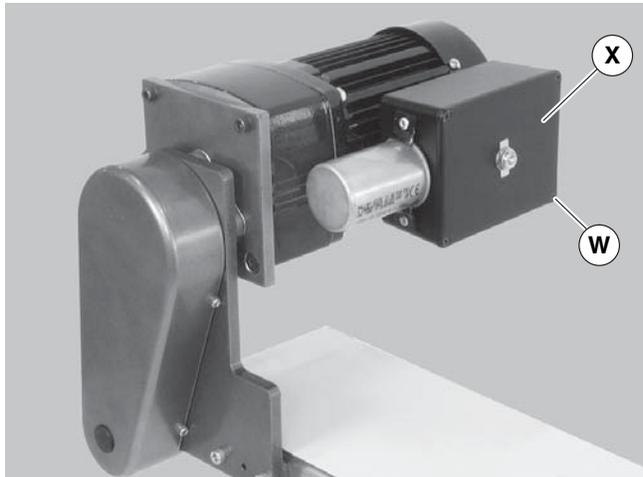

Figure 16
- Loosen terminal box screws (Figure 16, item W) and remove cover (X).